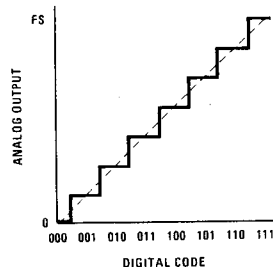

FIGURE 1. Linear DAC Transfer Curve Showing Minimum Resolution Error and Best Possible Accuracy
**Accuracy** is sometimes considered to be a non-specific term when applied to D/A or A/D converters. A linearity spec is generally considered as more descriptive. An accuracy specification describes the worst case deviation of the DAC output voltage from a straight line drawn between zero and full scale; it includes all errors. A 12-bit DAC could not have a conversion accuracy better than  $\pm \frac{1}{2}$  LSB or  $\pm 1$  part in  $2^{12}+1$  ( $\pm 0.0122\%$  of full scale due to finite resolution). This would be the case in figure 1 if there were no errors. Actually,  $\pm 0.0122\%$  FS represents a deviation from 100% accuracy; therefore accuracy should be specified as 99.9878%. However, convention would dictate 0.0122% as being an accuracy spec rather than an inaccuracy (tolerance or error) spec.